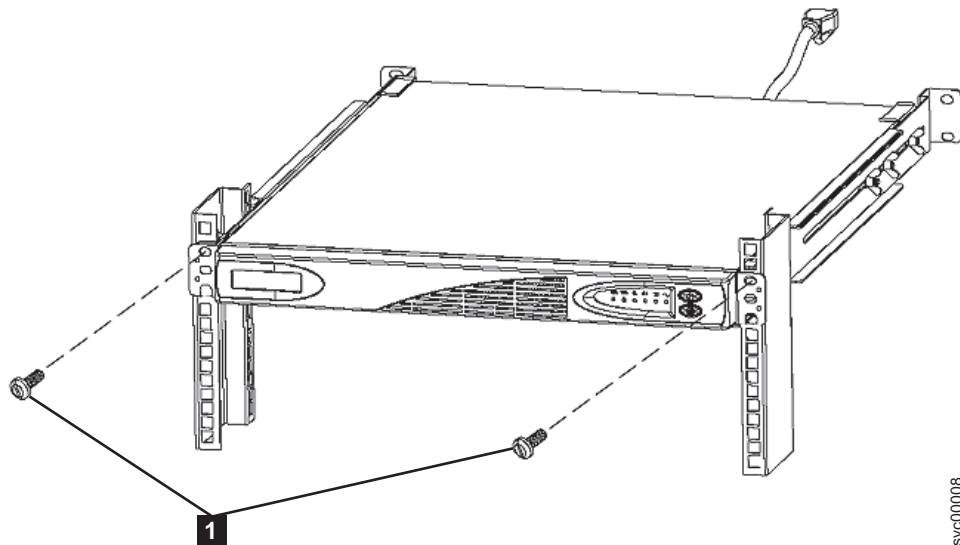

Figure 20. Installing the mounting screws for the 2145 UPS-1U
5. At the front of the 2145 UPS-1U, install the two mounting screws **1** (Figure 20).